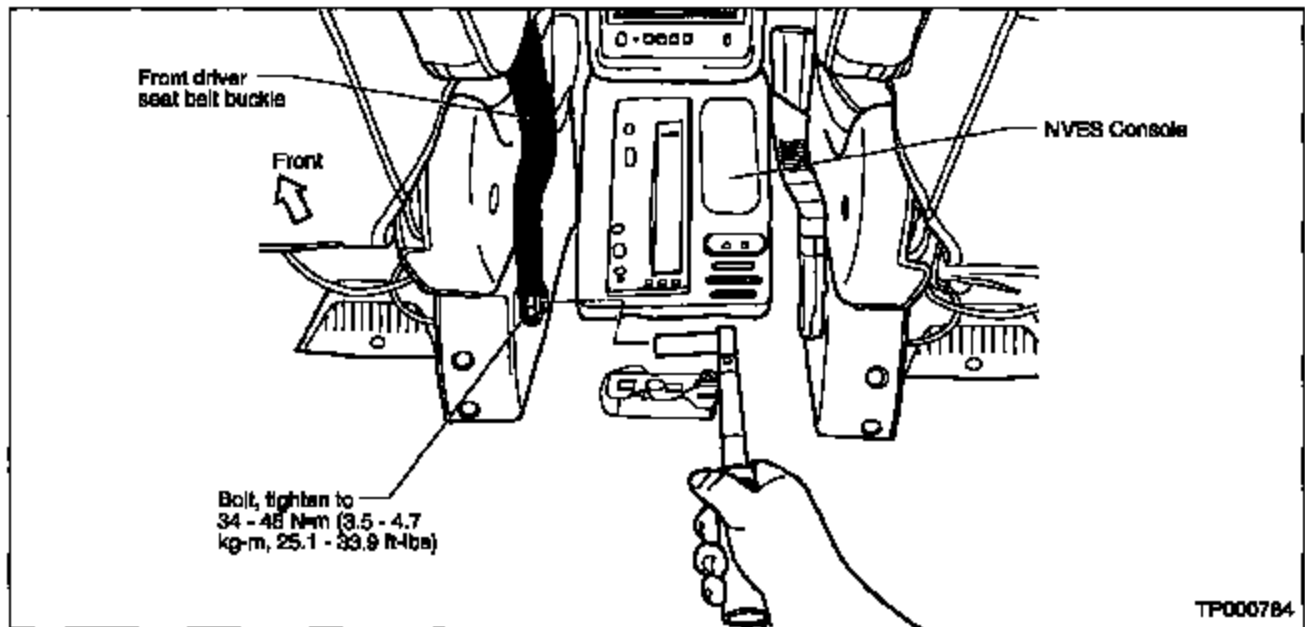

Figure 9
- B. Install the seat belt buckle and tighten the mounting bolt to 34 – 46 Nm (3.5 – 4.7 Kg-m, 25.1 – 33.9 ft-lbs). See Figure 9.